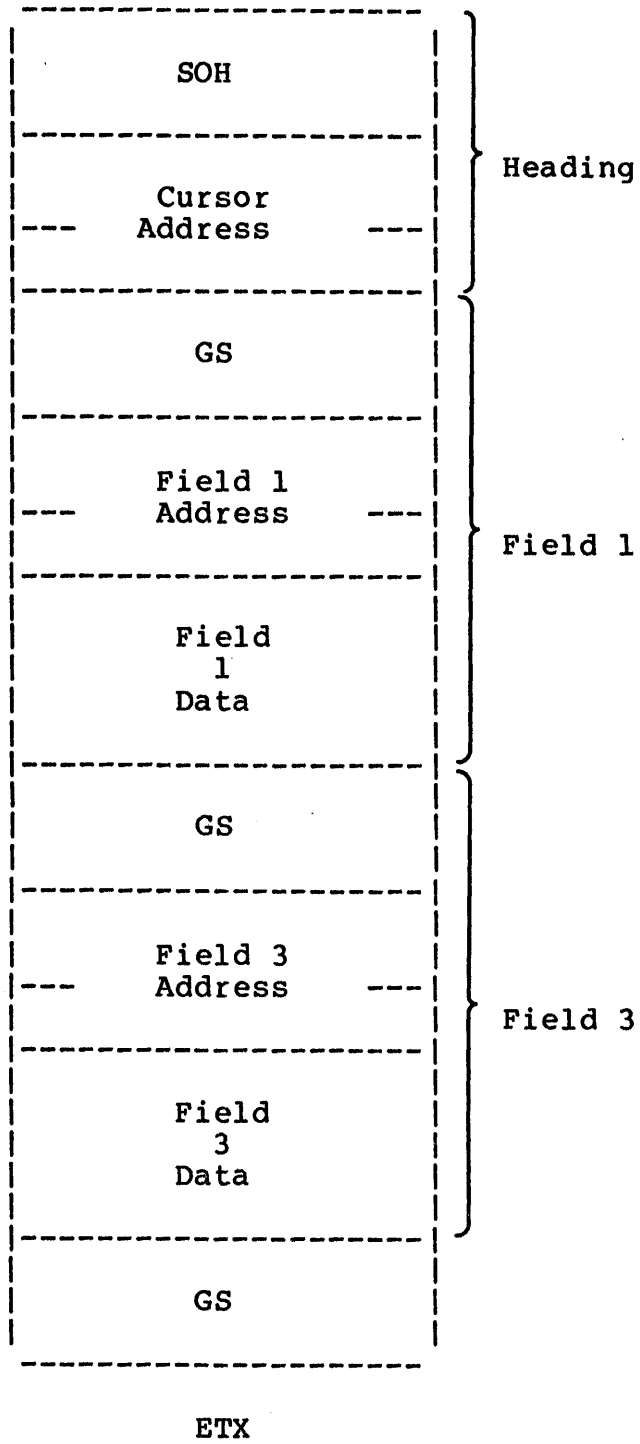
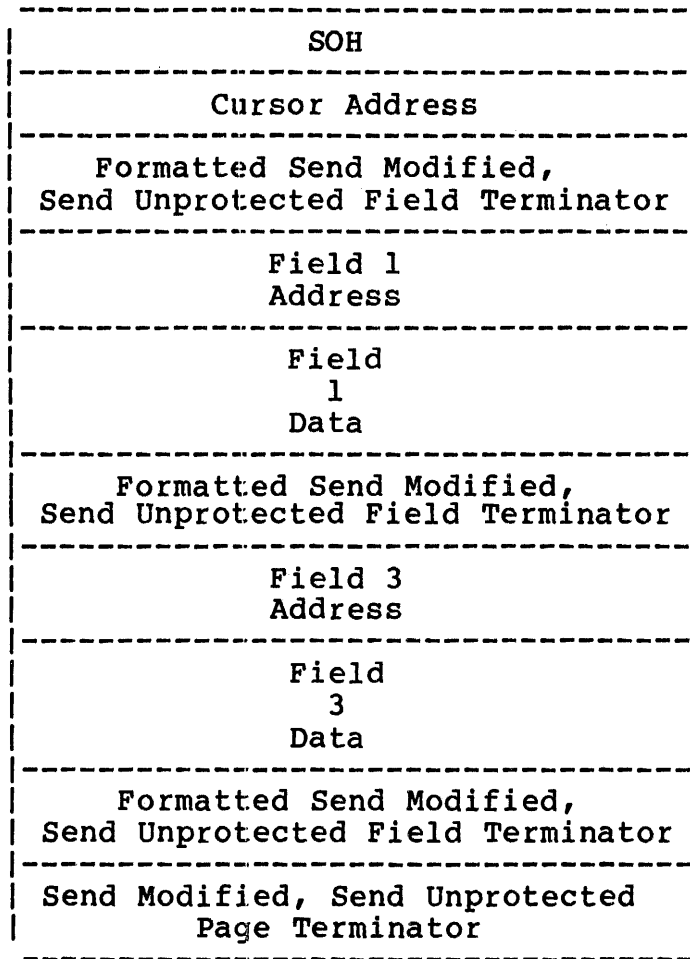

Figure 5-10 Read Modified Format (Model 1200 VDU)
Figure 5-11 Read Modified Format
4. Read Modified. This operation is legal only on a formatted screen. Read modified transmits only those fields for which the modified data tag is set in the field attribute character. A modified data tag is set when data is entered in a non-light pen field or if the designator character of a light pen field has been altered by light pen detection. Transmission starts with an SOH, followed by a 2-character cursor address sequence, and then the modified fields. Each field is preceded by a GS character and the buffer address of the first data character in the field for the Model 1200. For the Models 1250/1251, the Formatted-Send Modified, Send Unprotected-Field Terminator precedes each field. Nulls are suppressed. Model 1200 terminates transmission with an ETX character; Models 1250/1251 use the Send Modified, Send Unprotected Page Terminator. These formats are illustrated in Figures 5-10 and 5-11 where it is assumed that fields 1 and 3 have been modified, and field 2 has not. Figure 5-11 also assumes that there are no light-pen fields. Light pen fields transmit only the address of the field rather than the address and the data.